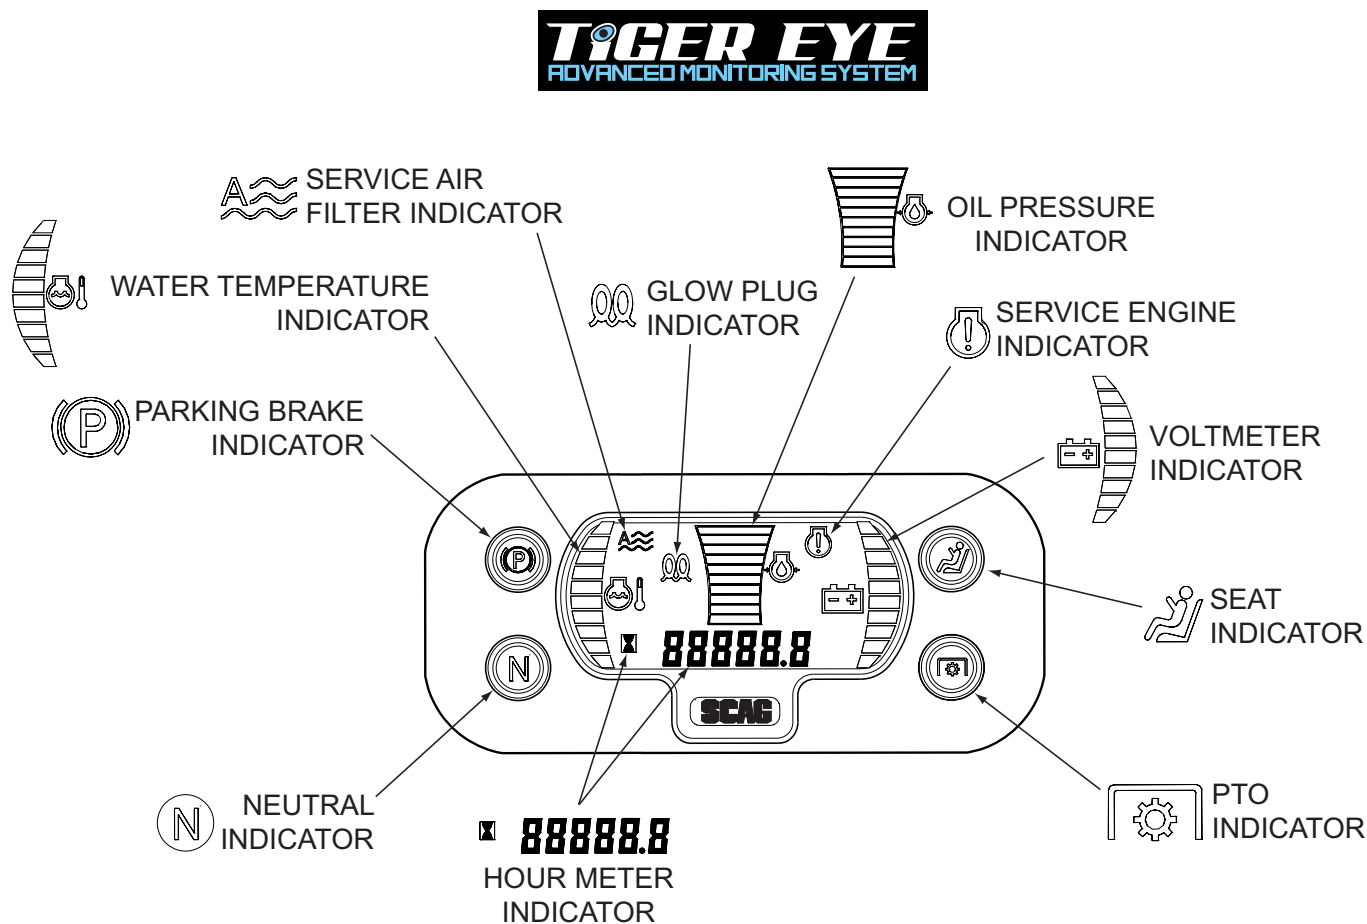

Figure 4-1. Tiger Eye Advanced Monitoring System
1. **Service Air Filter Indicator (Figure 4-1). Optional Accessory.** Indicates the condition of the engine air filter. Icon will display when it is time to change the air filter.
2. **Glow Plug Indicator (Figure 4-1). Used on Diesel Powered Units Only.** Indicator turns on when the key switch is turned to the PREHEAT position. Glow plugs must be preheated for 5 to 10 seconds before starting the engine.
3. **Oil Pressure Indicator (Figure 4-1). Used on Diesel Powered Units Only.** Indicates engine oil pressure. Reference the engine operator's manual for further information.
4. **Service Engine Indicator (Figure 4-1).** Indicates the maintenance reminder for the engine oil change. Has preset maintenance reminder and will start flashing scheduled maintenance 2 hours before preset time and continue flashing until 2 hours after. Automatically resets.
5. **Voltmeter Indicator (Figure 4-1).** Indicates the condition of the charging system. When the engine is running, in normal operating conditions, the bar graph should be in the 12 to 14 volt range.
6. **Seat Indicator (Figure 4-1).** Light will illuminate when the operator is in the seat engaging the seat switch.
7. **PTO Indicator (Figure 4-1).** Light will illuminate when the PTO (mower deck) switch is in the OFF position.
8. **Hourmeter Indicator (Figure 4-1).** Indicates the number of hours the engine has been operated. It only operates when the engine is running. Will start flashing with the Service Engine Indicator at scheduled maintenance 2 hours before preset time and continue flashing until 2 hours after. Automatically resets.
9. **Neutral Indicator (Figure 4-1).** Light will illuminate when the steering control levers are in the neutral lock position.
10. **Park Brake Indicator (Figure 4-1).** Light will illuminate when the park brake is in the engaged (ON) position.
11. **Water Temperature Indicator (Figure 4-1). Used on Liquid Cooled Models Only.** Indicates the operating temperature of the engine. If the engine temperature exceeds the maximum preset value, the indicator will flash and the Park Brake, PTO, Seat and Neutral indicator lights will flash in an alternating pattern.
7. **Brake Pedal (Figure 4-1).** Depressing the brake pedal applies the brake.